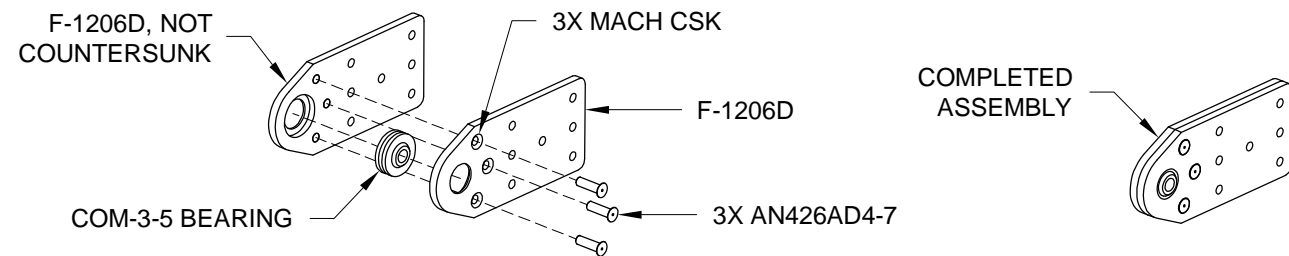

FIGURE 1: RIVETING BEARING BRACKET ASSEMBLIES
Step 1: Machine countersink #30 two F-1206D for the flush rivets called out in Figure 1.
Rivet together two Bearing Bracket Assemblies per the Figure 1 call-outs.